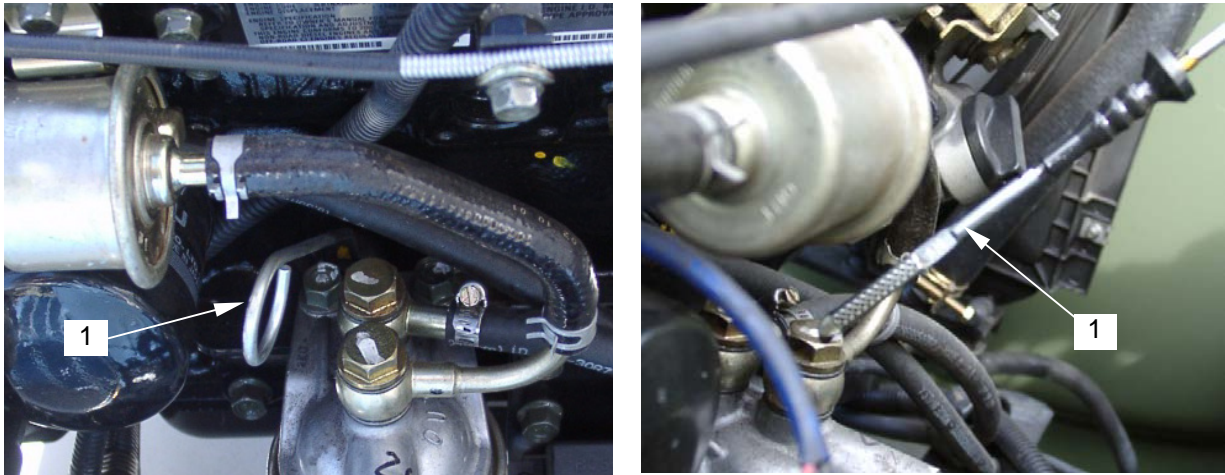

Figure 2. Dipstick
- d. Wait approximately fifteen minutes until the oil reaches the pan. Check oil level with dipstick (**figure 2, item 1**) for proper oil level as marked.